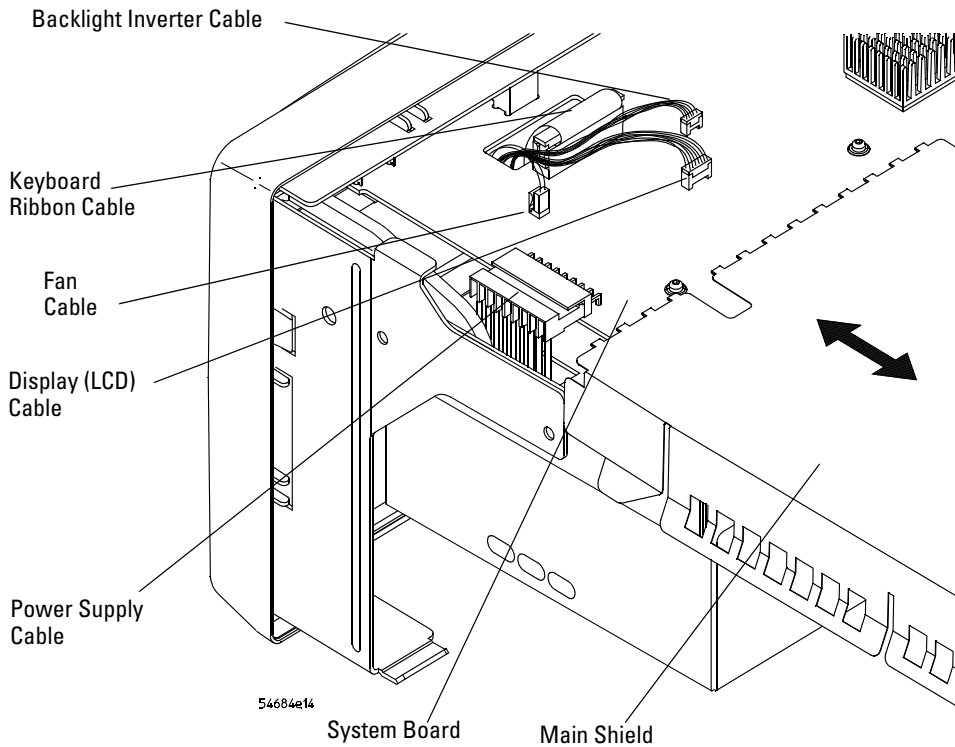

Figure 44 Preparing to remove the system board
- f** Ensure that the backlight, fan, and LCD cables are routed to the left of the keyboard ribbon cable as shown in Figure 44 on page 117.